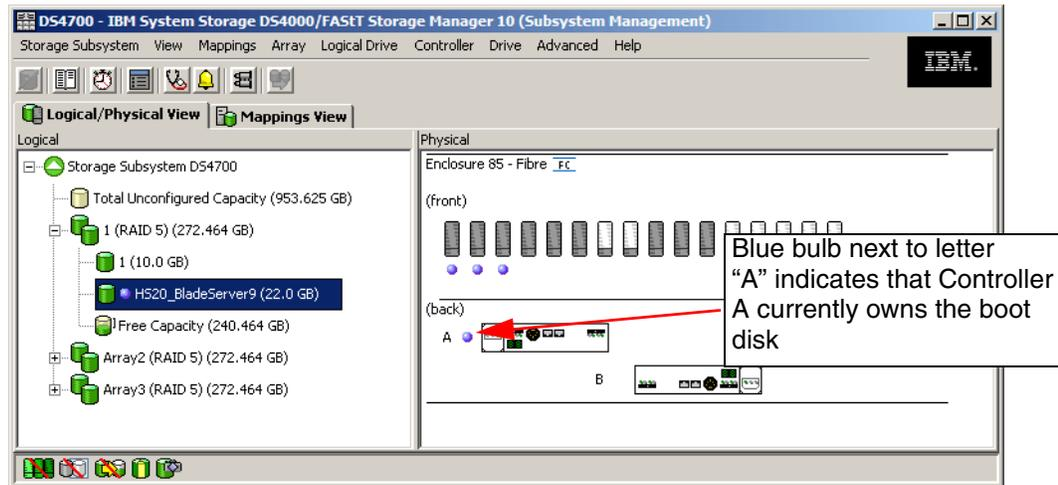

Figure 10-41 Check controller ownership
1. From the Storage Manager Subsystem Management window (logical/physical view), check which controller currently has the drive ownership of the boot disk for the HS20 Blade 9 (Figure 10-41).